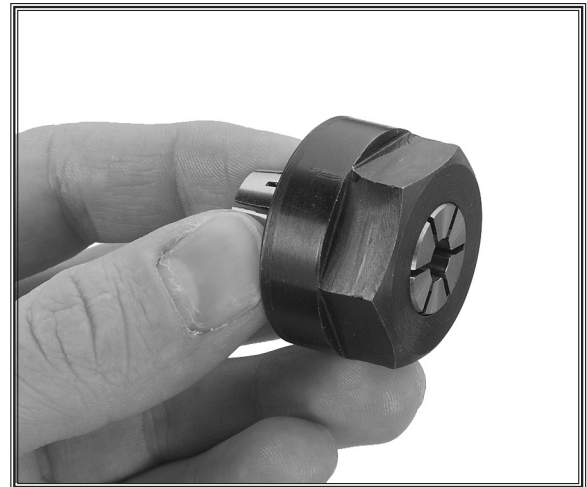

Figure 26. Router bit collet in collet nut.
2. Push the collet into the collet nut until the off-center lip of the collet nut snaps into the collet groove. See **Figure 26**.